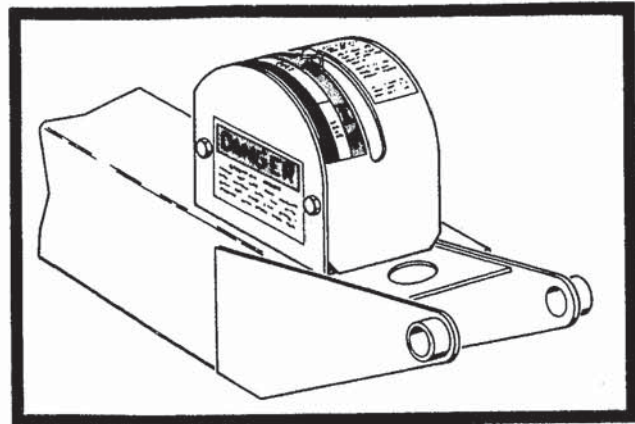

Figure 4-1. Capacity Indicator.
- (1). The platform maximum rated loaded capacity is shown on the capacity indicator and is based upon the following criteria:
- (2). It is recommended when additional weight is to be added in an elevated and extended mode that the boom be positioned to a maximum elevation prior to loading. When additional weight is to be added in a less than fully elevated mode the boom must be fully retracted and then extended only when the boom is fully elevated. Always ensure that maximum capacity as shown on capacity indicator is not exceeded.
- (3). The capacity indicator (Figure 4-1), indicates to the user the maximum allowable load in accordance with the boom elevation angle and extension of the boom. The color coded decal on the capacity indicator housing and the color type on the fly boom are color coordinated to ensure correct and easy reading. A pendulum indicator pointer, mounted on the capacity indicator housing, indicates boom angle (left edge of color code decal) and the maximum allowable load for the angle, for the color which agrees with the color tape on the fly boom at the point it enters the mid-boom to determine the load limit.